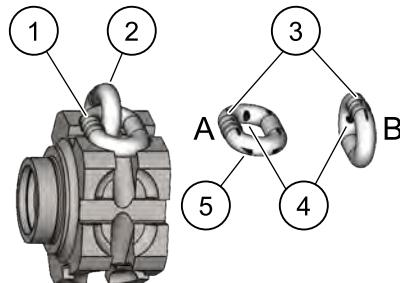

Figure 7. Chain Wear Areas
3. Slack the portion of the chain that normally passes over the lift-wheel (sprocket). Examine the chain links for wear (see Fig. 7). If the wire diameter anywhere on the link measures less than 90% of the nominal wire diameter, replace the chain.